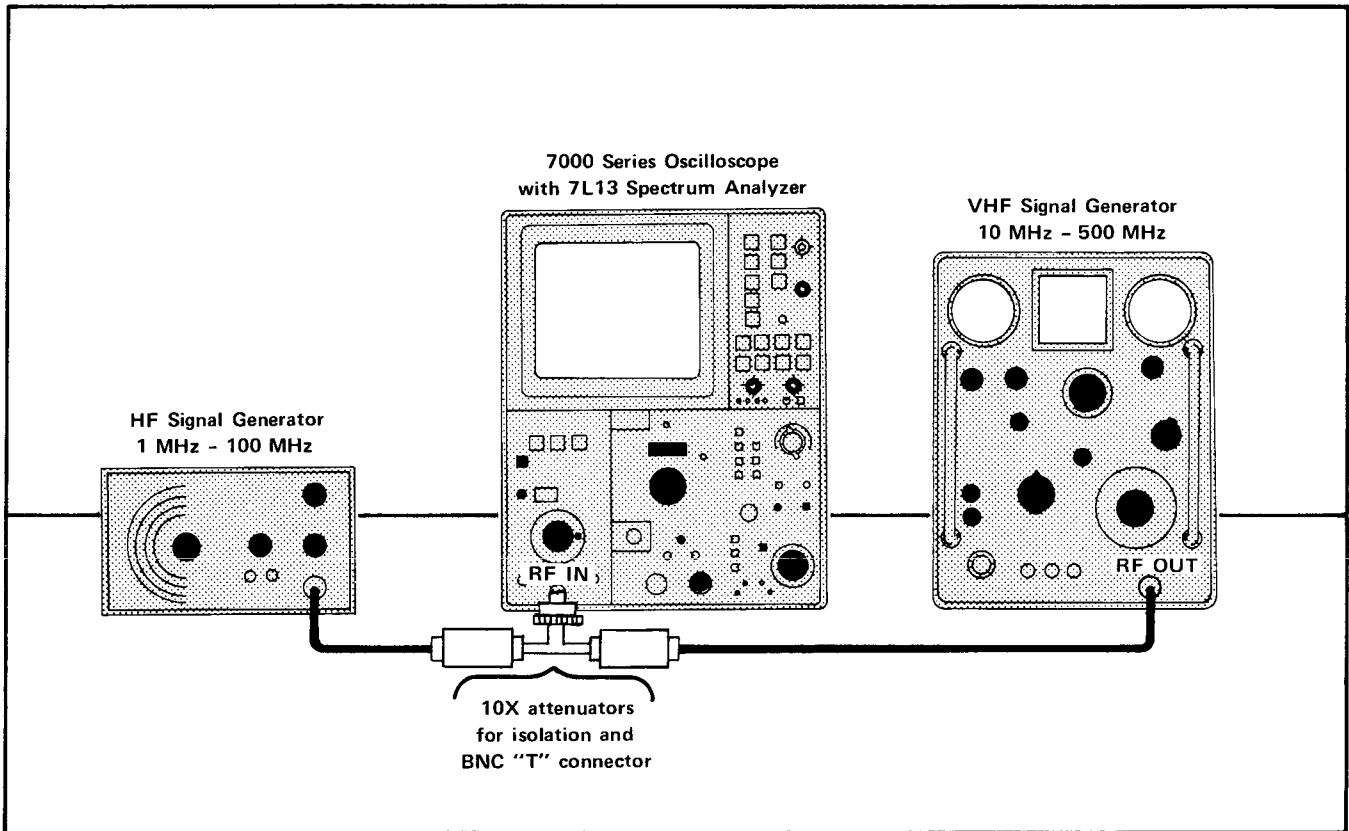

Fig. 4-19. Equipment setup to measure IM distortion.
b. Apply two signals, separated by 1 MHz, from two  $50 \Omega$  signal generators, through 10X attenuators (for isolation) then through a BNC "T" connector to the RF INput. (Fig. 4-19).